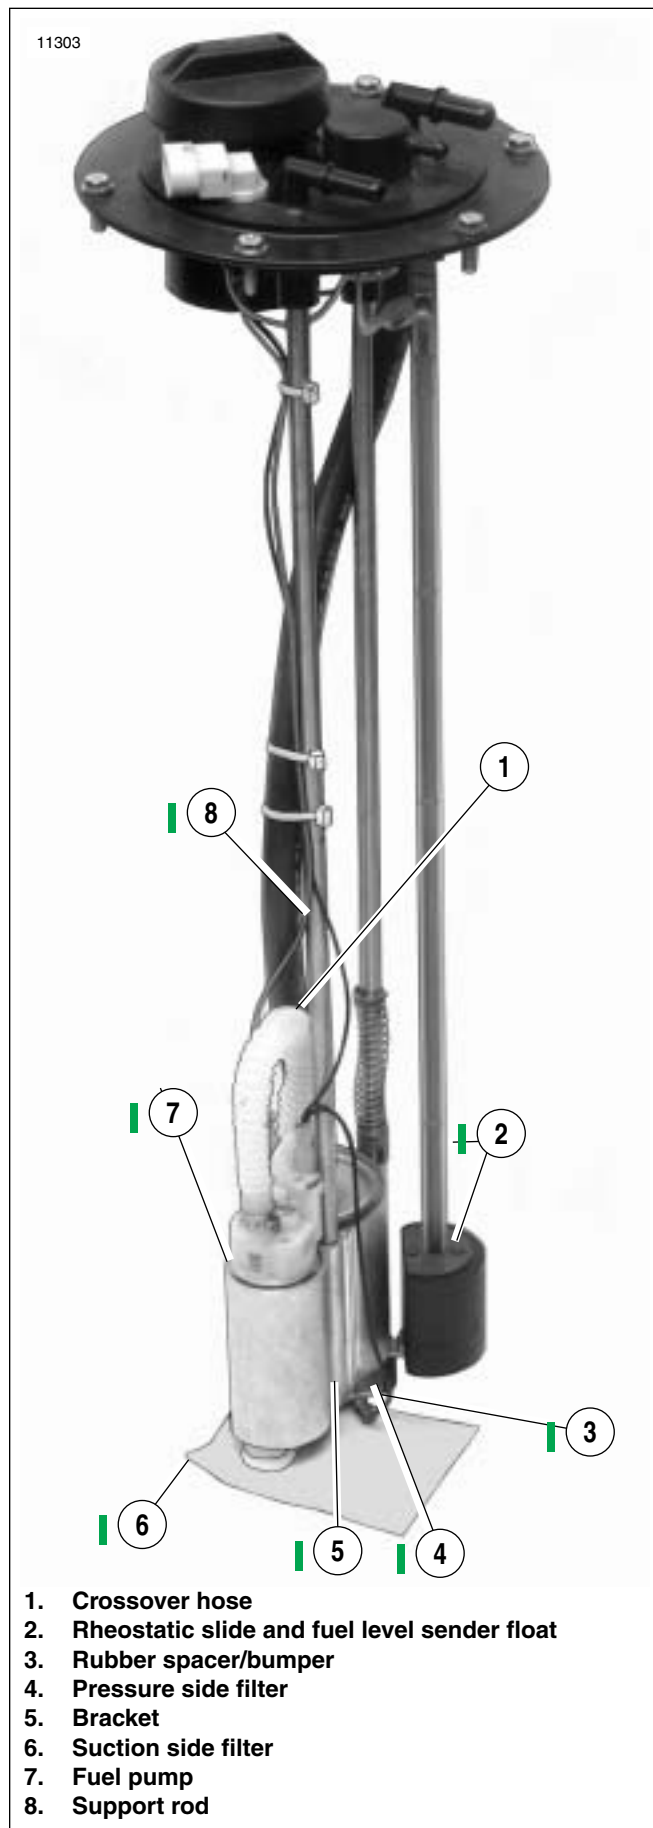

Figure 4-9. Fuel Pump/Filter/Sender Assembly
1. See Figure 4-9. Remove yellow wire lead and the double black wire leads from the rheostatic slide (3).
3. Remove the retaining screw at the bottom of the rheostatic slide (3).
4. Pull the rheostatic slide (3) from its slot in the top plate and remove the fuel level sender float (3).
1. See Figure 4-9. Slide rheostatic slide with fuel level sender float (3) into notch in top plate. Orient the scale so that the graduated side of the slide faces the fuel level wire connector on the top plate.
2. With the fuel level sender float on the slide (3) so that the half-round side faces out, thread in and tighten the retaining screw into the stop bracket at the bottom of the rheostatic slide (3).
3. Attach the yellow wire lead to the graduated side of the rheostatic slide (3) and the double black lead to the opposite side.
See Figure 4-9. The suction side filter filters the fuel as it enters the strained intake of the fuel pump. The suction side filter is replaced at the service interval of 161,000 kilometers (100,000 miles).
See Figure 4-9. The pressure side filter filters the fuel before it enters the pressure fuel line. The pressure side filter is serviced at a service interval of 161,000 kilometers (100,000 miles) or at anytime the fuel pump is serviced.
- See Figure 4-9. Remove the black and red wire leads from the fuel pump.
- See Figure 4-9. Push a **new** fuel pump down into its bracket against the screwed on bracket stop.
1. See Figure 4-9. Remove yellow wire lead and the double black wire leads from the rheostatic slide.
1. See Figure 4-9. Slide rheostatic slide with fuel level sender float into notch in top plate. Orient the scale so that the graduated side of the slide faces the fuel level wire connector on the top plate.